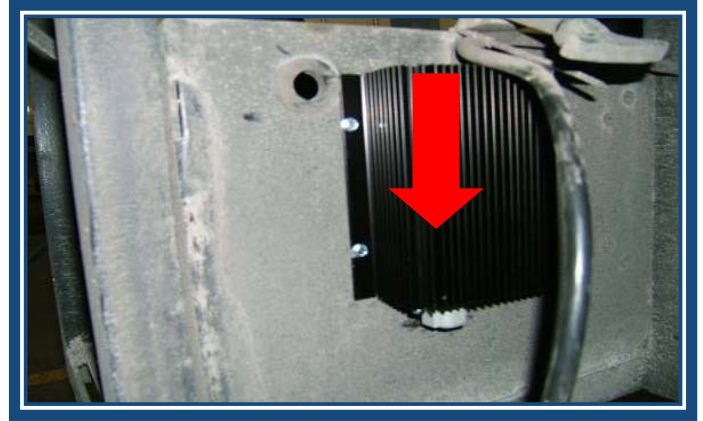

Figure 1
**Step 1:** Mount the Trail Charger on the back of the liftgate battery box using the supplied self-drilling sheet metal screws. Check the back side of the mounting location to ensure that nothing will be damaged during installation. The Trail Charger should be mounted about 1 ½" down from the top and just to the right of the grommet. The unit must also be mounted with the plug pointed down (6 o'clock). (See Figure 1)